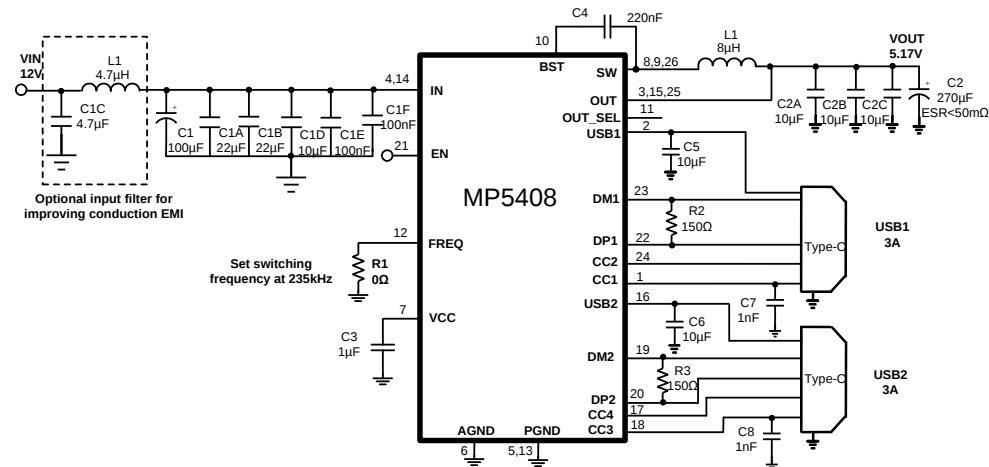

Figure 12: Dual USB Type-C 5V/3A DFP Ports (11)
10) The recommended layout is based on the Typical Application Circuits in Figure 12 through Figure 14.